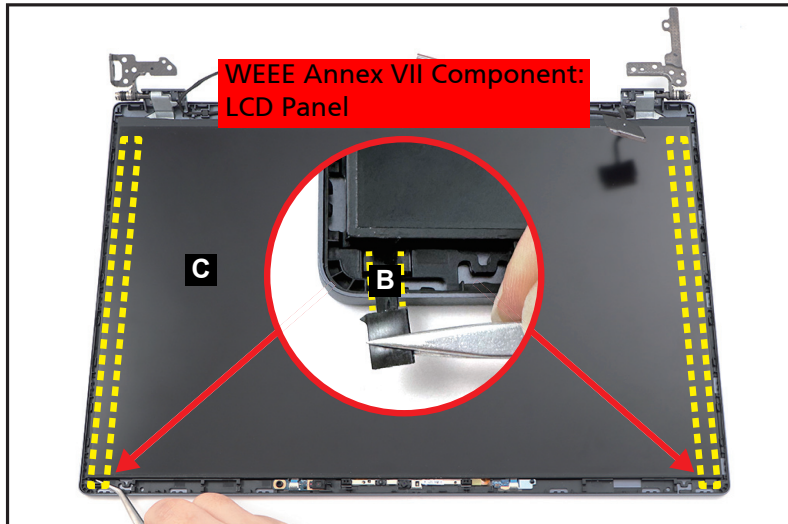

Figure 1-69. LCD Panel Removal
2. Pry slightly to access the double-sided mounting tape (B) underneath the LCD panel (C). Then pull to detach the double-sided mounting tape. Repeat the same procedure to remove the double-sided mounting tape on another side of the LCD panel (Figure 1-69).